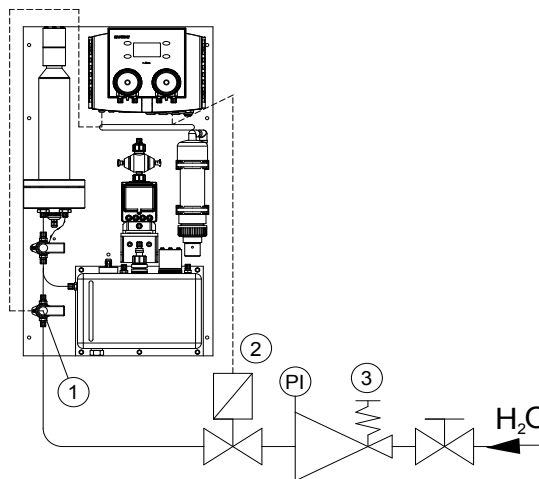

Fig. 6.3.2: Water valves
EASYZON controls two independently switching supply valves for the dilution water. Valve ① (in Fig. 6.3.2) is mounted on the wall panel and controls the quantity of water in the reactor. Valve ② is optional. EASYZON turns this valve OFF during the operational mode and during disturbances such as power failure or, for example, report of a leak.